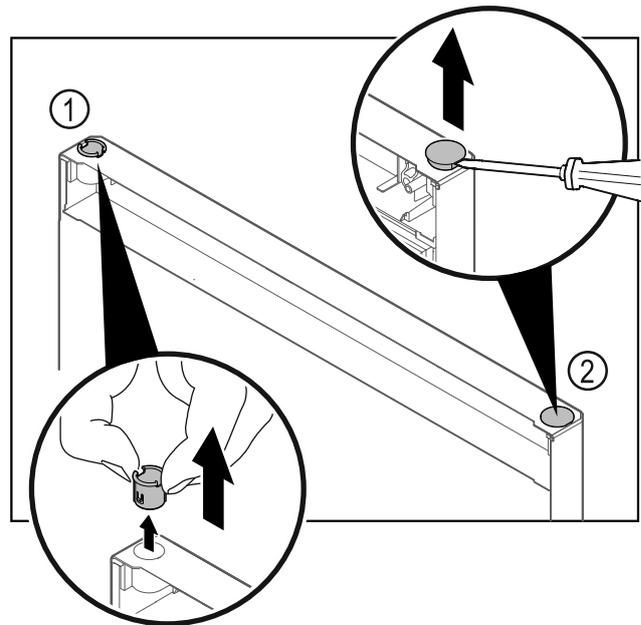

Fig. 14
- ▶ Pull out the hinge bushing Fig. 14 (1) with your fingers.
- ▶ Carefully lift the cover plug Fig. 14 (2) with a slotted screwdriver and pull it out.